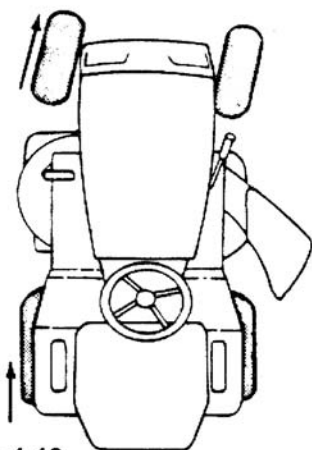

Figure 4-13.
- 4-8.2 The four wheel steering lawn tractor is designed for optimum maneuverability. It is important to understand how it operates before using the lawn tractor. If the wheels are pointing straight forward and the steering wheel is turned less than approximately 45 degrees, only the front wheels turn. See Figure 4-13.